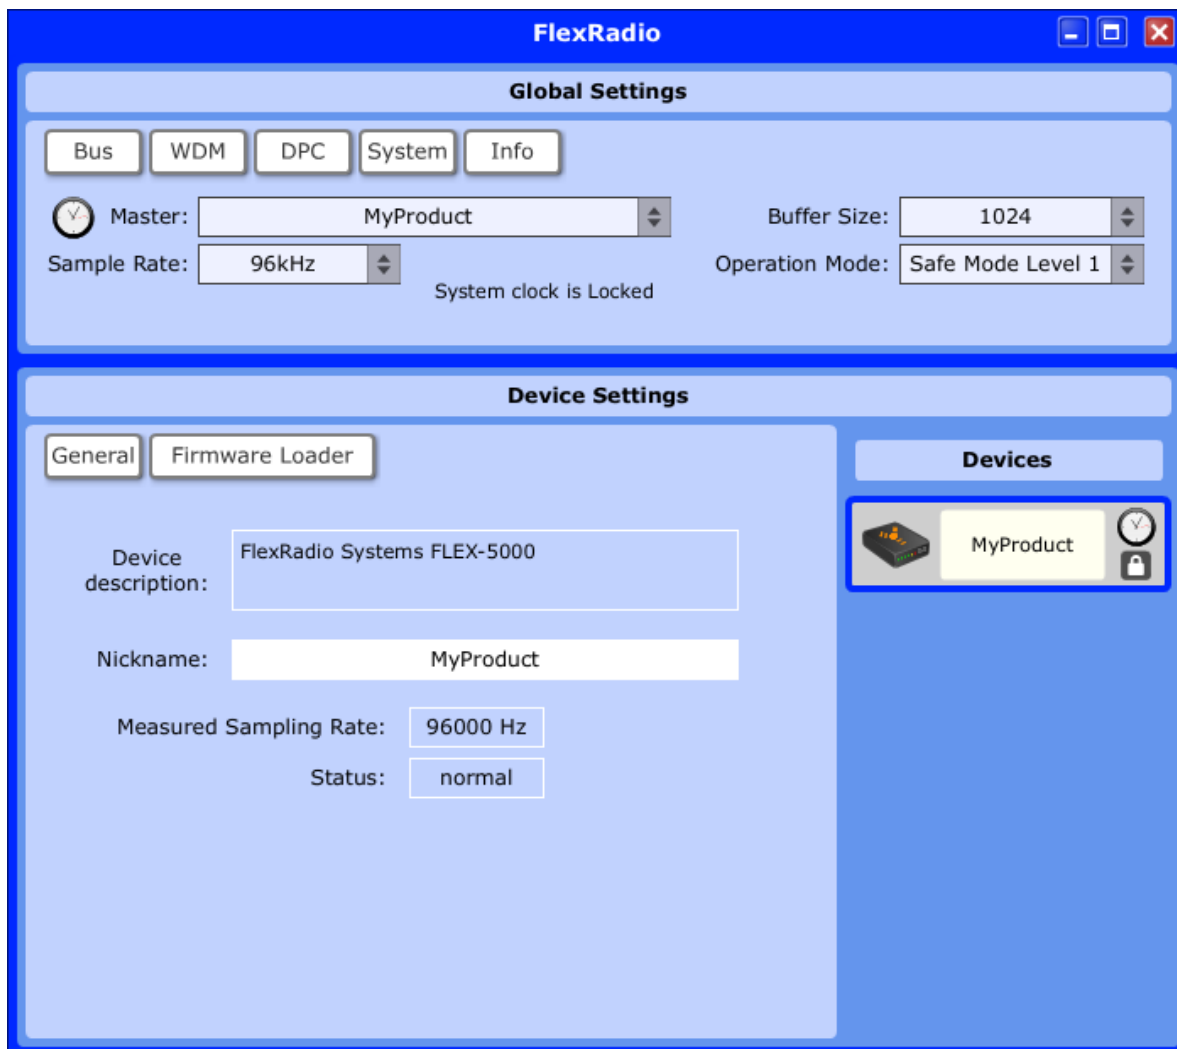

Figure 148: FlexRadio Driver Control Panel - Default View
The FlexRadio Driver comes with a Control Panel which enables you to verify and set various parameters. To open the Driver Control Panel make sure your FLEX-3000 is turned on and then double-click on the FlexRadio Driver's desktop icon you created during installation. Alternatively, click on Start → All Programs → FlexRadio Systems → FlexRadio. You will see the Control Panel as shown in Figure 148.
- ❑ **Master** displays the **Nickname** of your FlexRadio. The default **Nickname** is **MyProduct**, as shown in Figure 148 on page 159. (You can change this to any nickname you desire by clicking on the **Nickname** displayed in the lower **Device Settings** section).
The lower Device Settings section has two buttons which act as tabs: **General** and **Firmware Loader**. (see Figure 148 on page 159).
- ❑ **Measured Sample Rate** should equal the **Sample Rate** shown in the Bus Global Sections panel (see Figure 148).